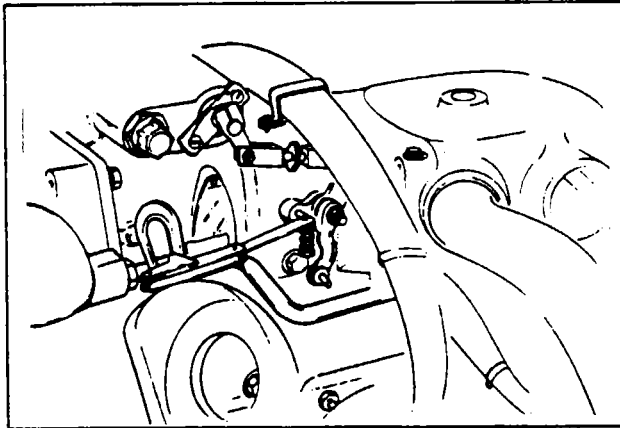

Figure 13a. Setting idle adjusting screw at injector stop pin.
- c. Back off idle stop adjusting screw until it just touches the injector stop pin when the throttle butterfly is fully closed. Check clearance with a piece of shim stock or an .0015 inch feeler gauge. See Figure 13a.